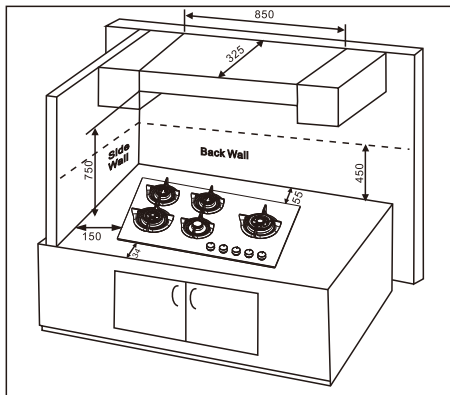

Fig.6 (in mm)
- When fitting a vent hood above the hob, refer to the manufacturer's own installations relating to that product. However as a general rule, a minimum clear vertical distance of 750mm (30") should be maintained between the cook-top and the underside of any cupboard, wall unit or vent. (Fig 6)
- Any cabinet installed above the cook-top must not be greater than 325mm (13") deep. (Fig 6)
- The edge of the hob must have a minimum distance from the rear wall of 55mm. (Fig 6)